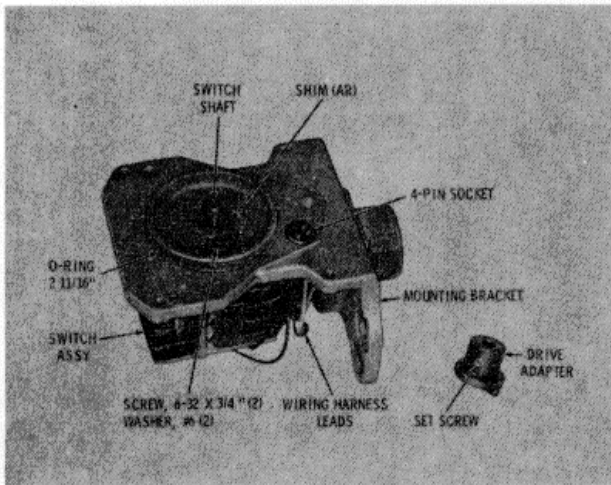

Figure 15-108. Mounting Bracket and Shaft-End of Switch
21. Loosen the setscrew that retains the drive adapter on the switch shaft (Figure 15-108). Remove the drive adapter. Remove the shim(s) from the switch shaft.
22. Disconnect all of the wiring harness leads from the switch assembly (Figure 15-108). Remove two screws and washers that retain the switch assembly. Remove the switch assembly. The switch assembly is not a serviceable assembly.
23. Remove the four-pin socket if replacement is necessary (Figure 15-108).
7. Install one shim 19 (B, Foldout 12) (darker side first) onto the switch shaft (Figure 15-108).
8. Install the drive adapter (Figure 15-108). Position the adapter lightly against the mounting bracket, and tighten the setscrew against the flat on the switch shaft.
16. Install the 2-11/16 inch (68.25 mm) O-ring onto the mounting bracket (Figure 15-108).